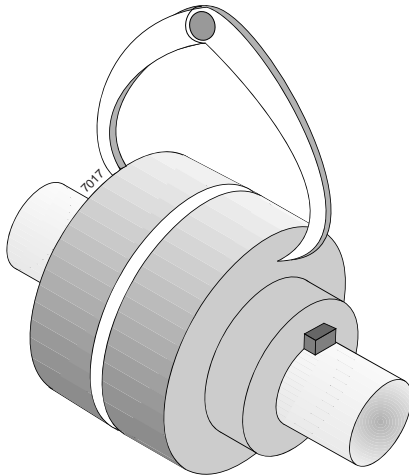

Figure 2
3. The adjustment can also be carried out using a pair of callipers on 2 points of the side surfaces of the coupling located opposite each other, see figure 2.